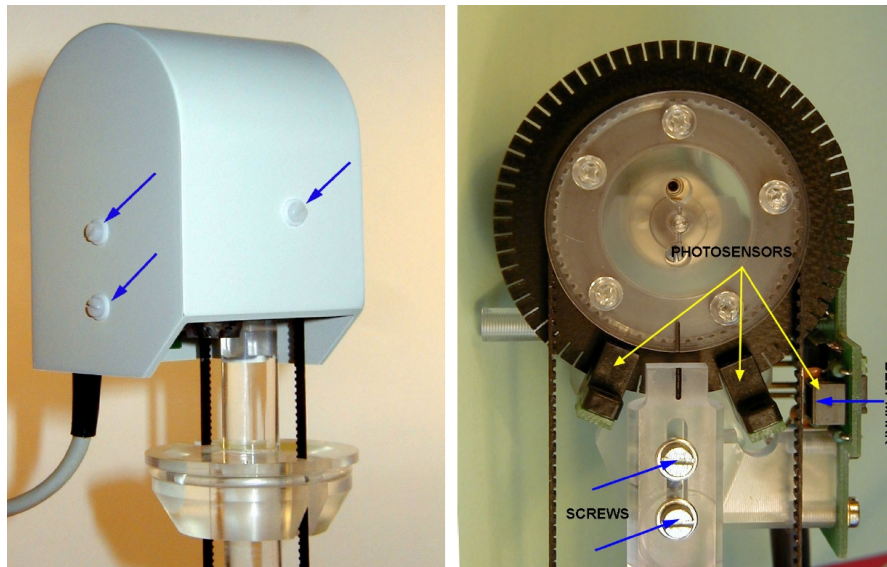

Figure 1: Left - white lid; Right - photocouplers
- Unscrew three plastic screws on the lid of the rotator, marked by blue arrows in Figure 1. Be careful not to lose the screws or plastic washers. Pull the lid gently up to remove it.
- Loosen a little bit two screws (Figure 1, right side), but do not remove them. After that the strain of the tooth belt eases and the specimen shell can be removed from its bearing.